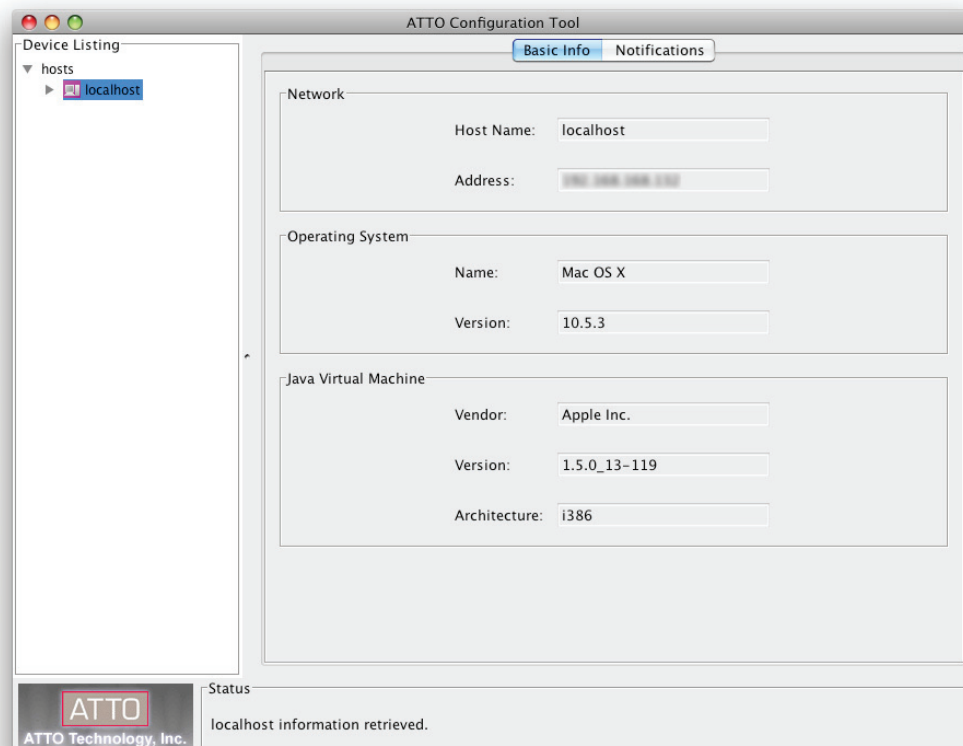
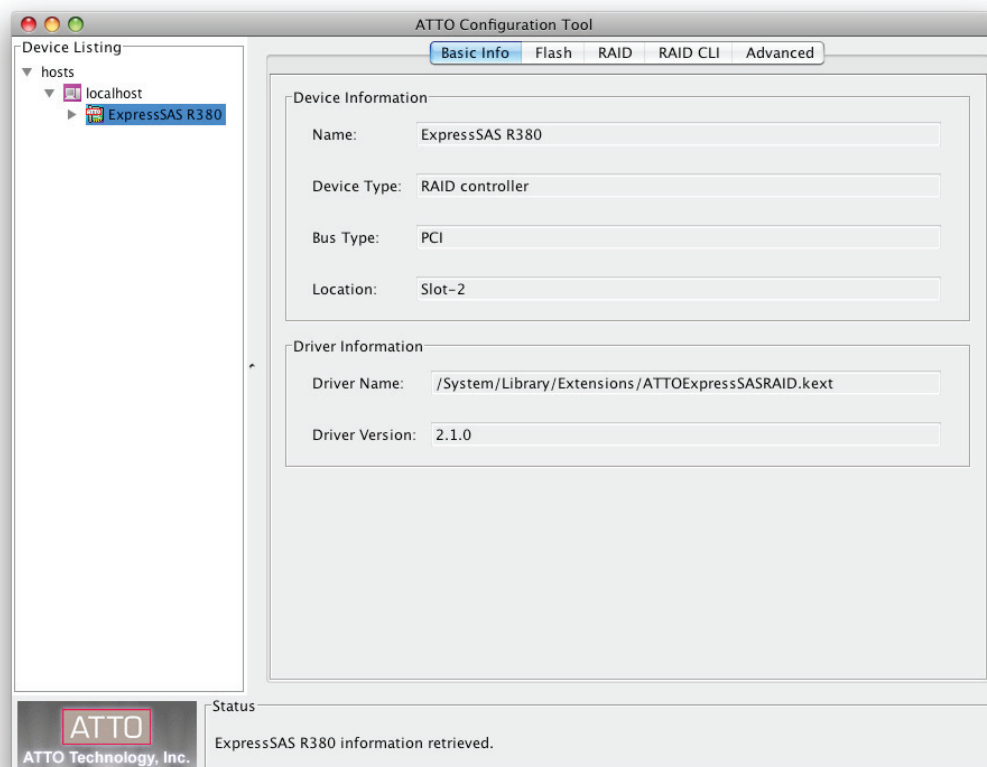

Figure 2
Figure 3
- The **Basic Info** tab provides information about the Sonnet RAID controller when it is highlighted in the Device Listing pane, or the computer if localhost is highlighted. You cannot make changes from these screens. See **Figure 2** on page 3 and **Figure 3** on page 4.